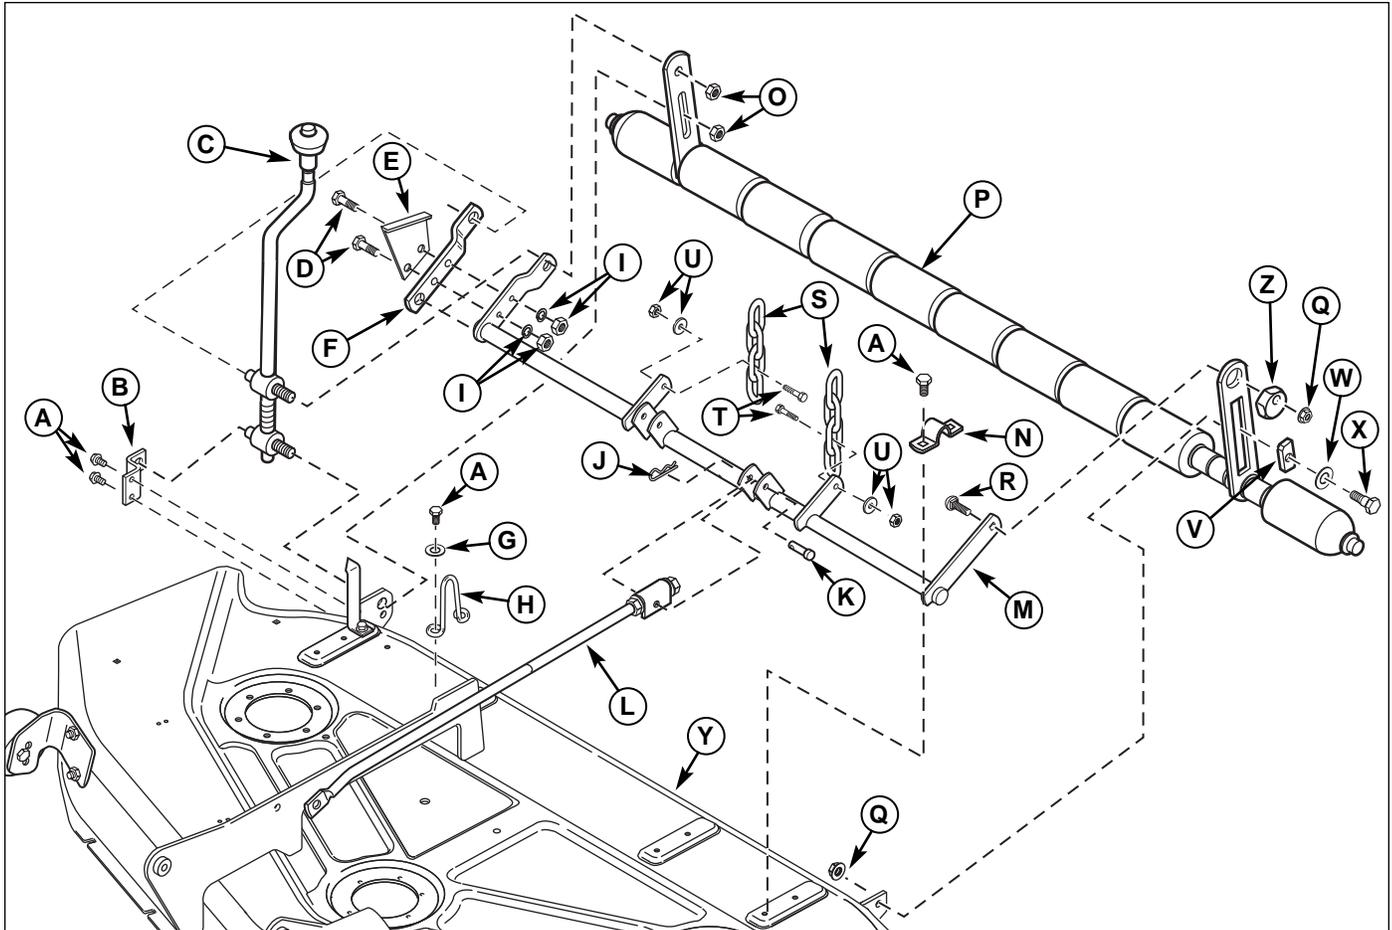

Figure 3. Install 54" Roller Bar
1. Attach the rocker arm assembly (M, Figure 3) to the mower deck (Y) with the straps (N) and capscrews (A). Apply a thin film of grease to the inside of the straps.
2. Attach the chains (S) to the rocker arm assembly (M) using 5/16-18 x 1-1/2 capscrews (T), 5/16-18 locknuts & washers (O) as shown.